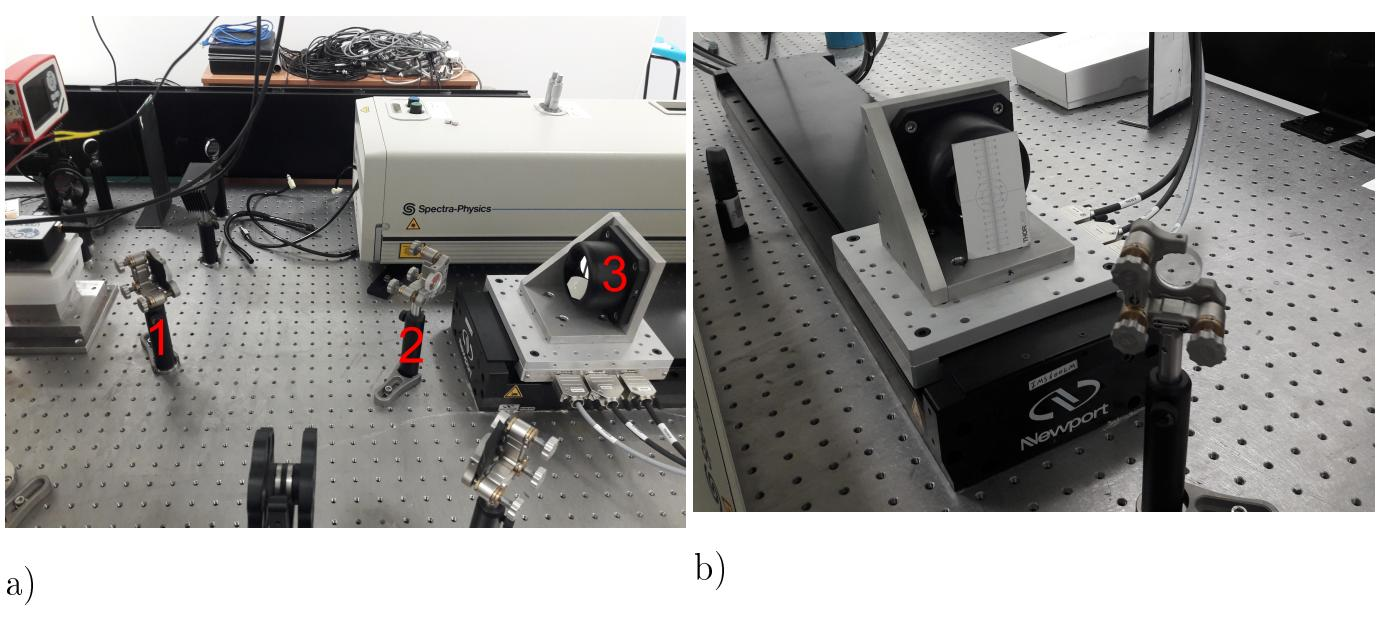

Figure 6: Delay line: 1 - directing mirror, 2 - rotating mirror, 3- corner retroreflector.
2. Install a screen before the corner reflector (Fig. 6).